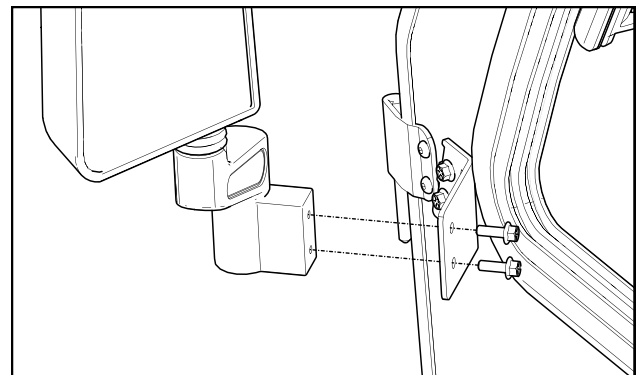

Fig. 2.3
- 2.3 Install the driver side mirror to the mounting bracket using 1/4-20 x 3/4" long screws as shown in figure 2.3.